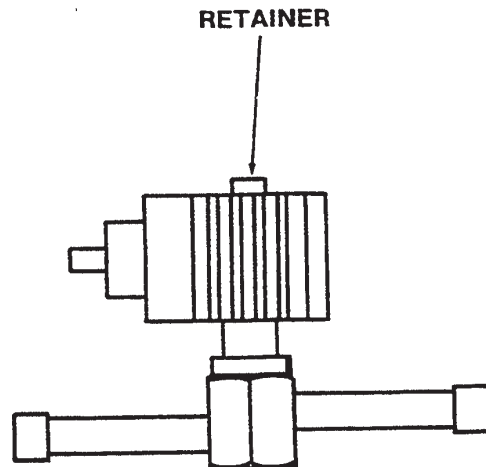

Figure 48. Solenoid Coil Removal
5. Remove the retainer holding the coil to the solenoid body and remove the coil (Figure 48).